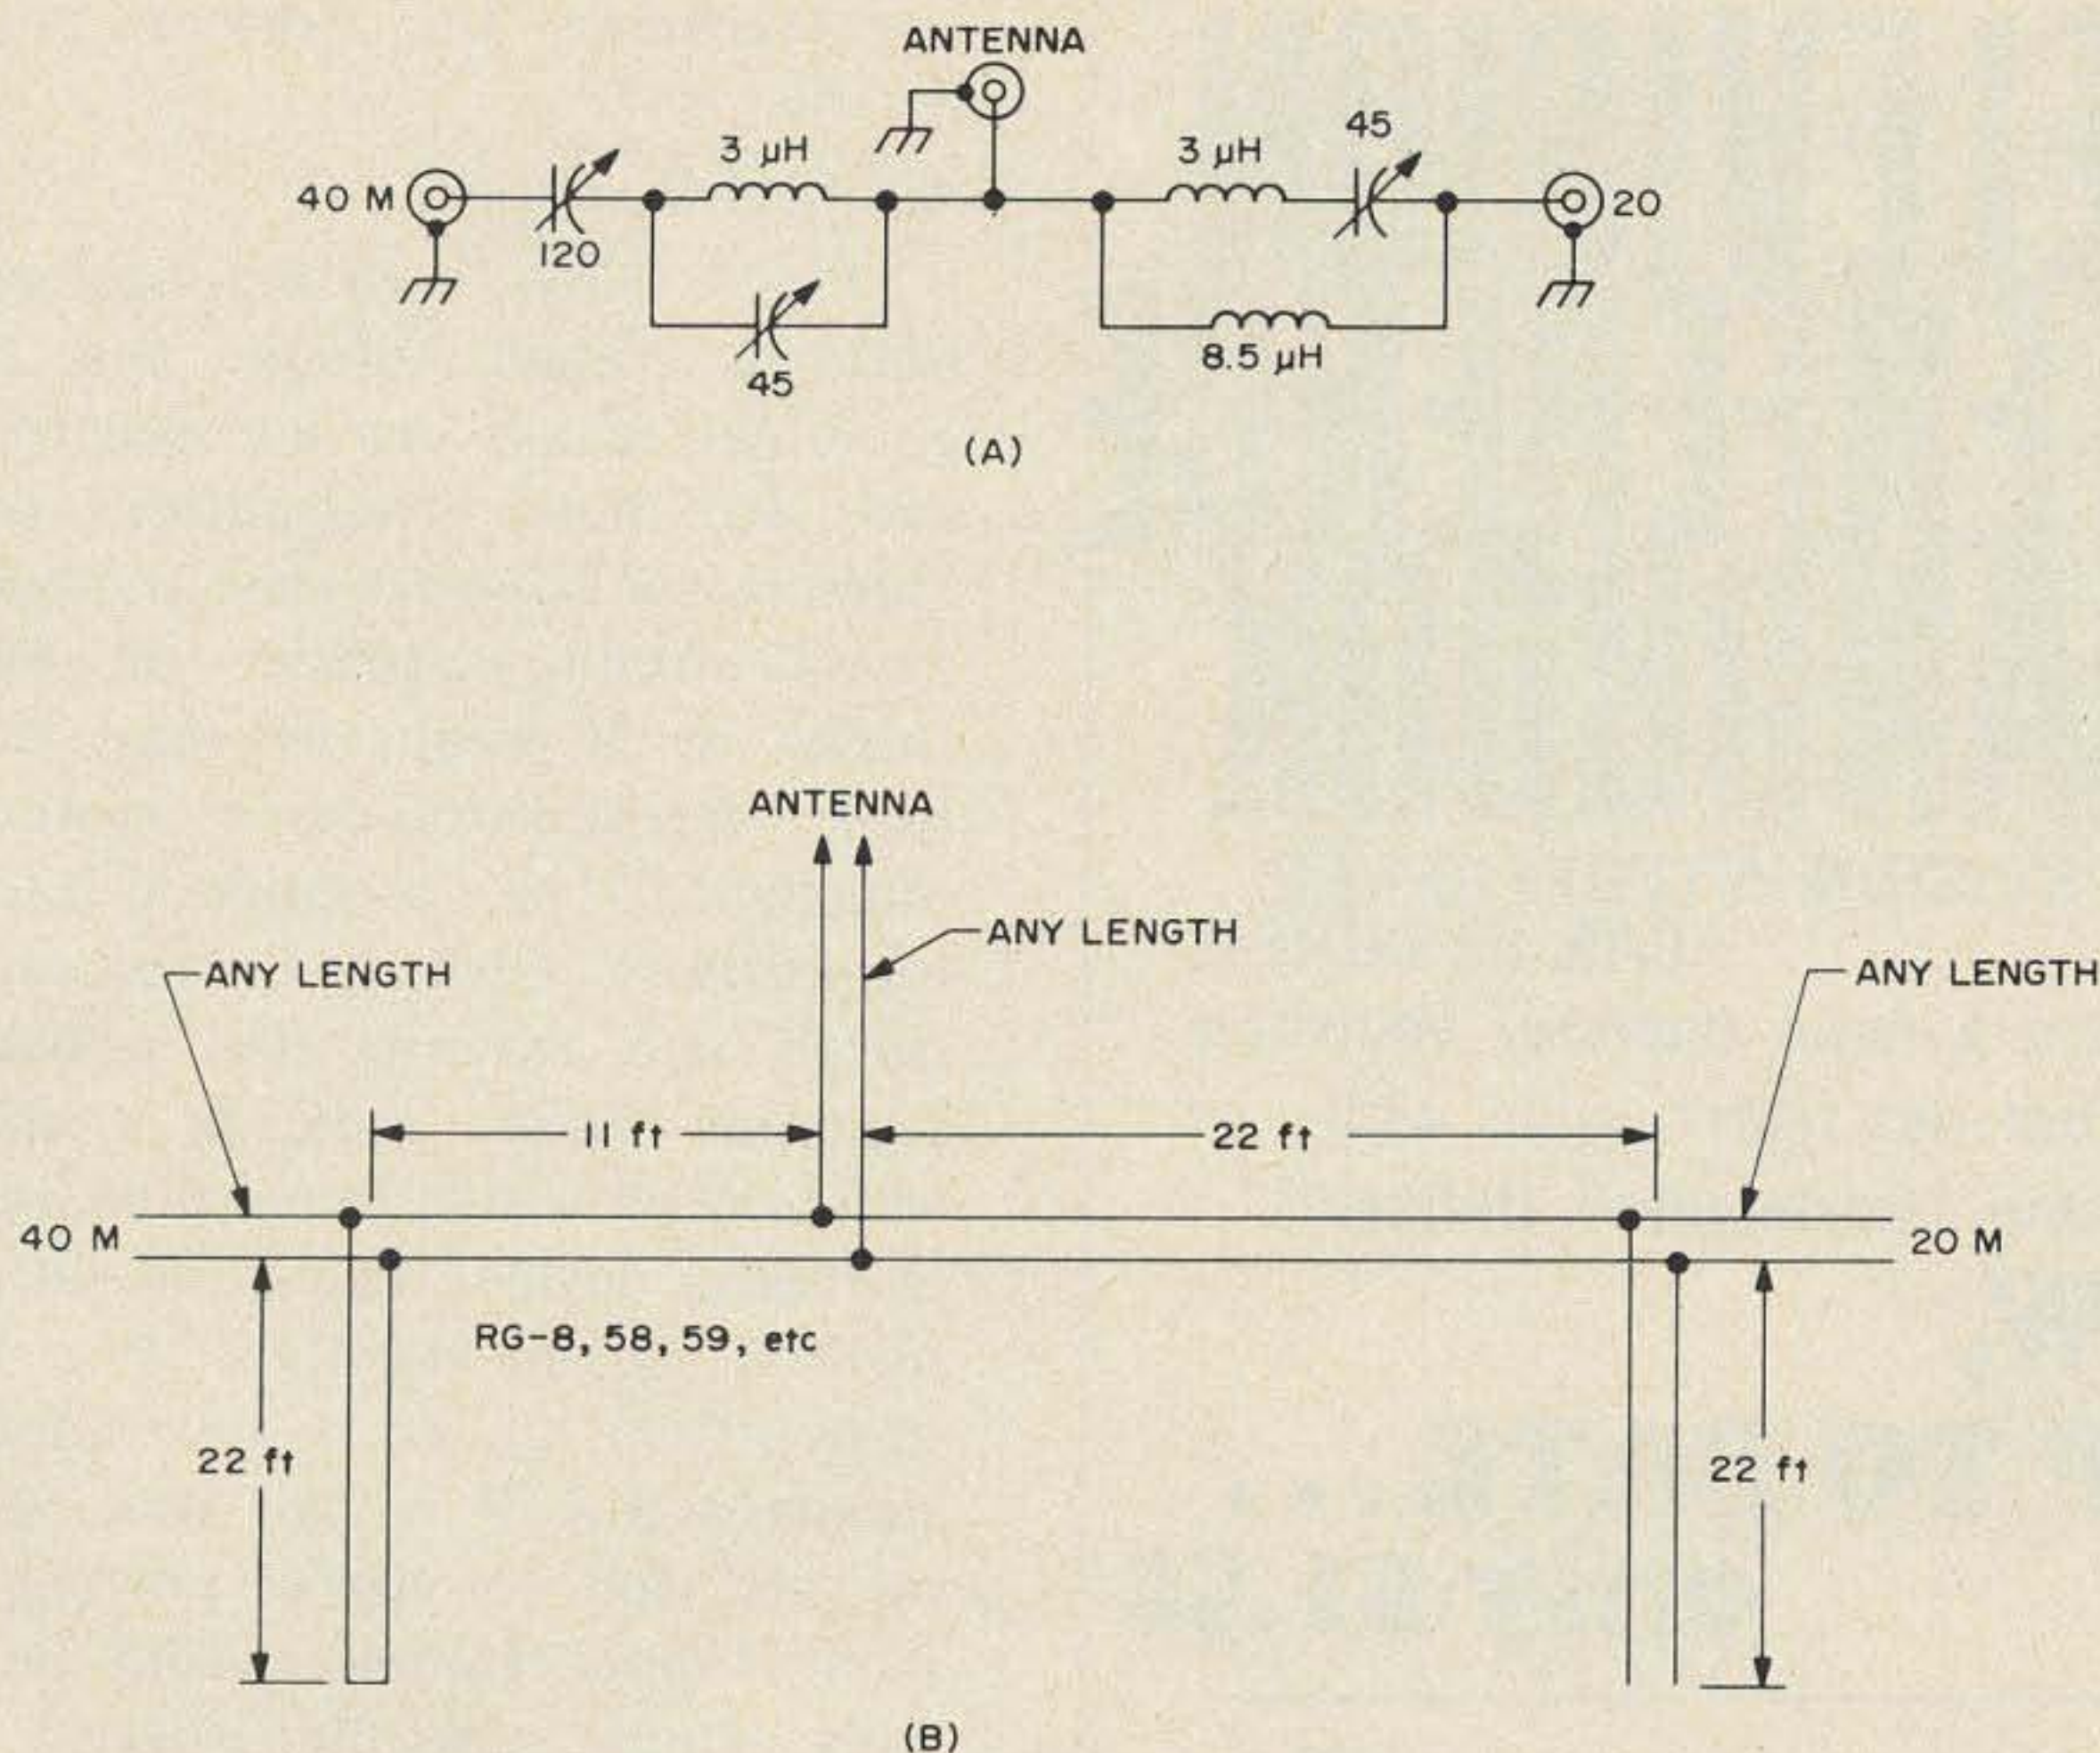

Fig. 3. Practical values for 40/20 meter combiner units. Similar combiners may be constructed for other combinations of amateur bands.
The simple transmission line combiner shown in Fig. 3(B) requires that frequency F be one half of that of F2. Normal transmission line (coaxial or balanced type) can be used for the entire construction. The operation can be visualized by first noting that both F1 and F2 transmitters are directly connected to the antenna. However, they are not interconnected to each other. On the F2 "side" of the combiner, the open end stub is $\frac{1}{4}\lambda$ long at F1. Thus at F1, it reflects a short where it is connected to the transmission line. The length of line between this point and the antenna is also chosen to be $\frac{1}{4}\lambda$ long at F1. Thus, the short is further reflected at F1 to
Fig. 3 shows two practical examples of both a tuned circuit and stub type combiner which can be used to couple 20 and 40 meter transmitters to a single antenna for simultaneous transmission. The tuned circuit combiner of Fig. 3 (A) is shown as it might be used in a coaxial cable transmission line system of any impedance. The transmission line from each transmitter must, of course, correctly match the antenna line impedance. The combiner serves only as a coupling and isolation network, but not as an impedance matching device. The coils should have as high a Q as possible. For low power transmitters up to a few hundred watts, standard B & W or Air Dux coil stock can be used; but for higher powers, coils made from copper tubing should be used. The coils should also be isolated from each other by mounting them at right angles to each other or using shields between them. With each connector dummy loaded by a small resistor corresponding to the impedance of the transmission line used, a grid-dip meter coupled to the 3 μ H coil on the 20 meter "side" of the combiner, the 45 pF capacitor on that "side" is adjusted for circuit resonance on 20 meters. With the grid-dip meter loosely coupled to the 8.5 μ H coil, that coil is trimmed for resonance on 40 meters. On the 40 meter "side" of the combiner, the grid-dip meter is loosely coupled to the 3 μ H coil. The 120 pF capacitor is adjusted for resonance at the 40 meter operating frequency. The 45 pF capacitor is adjusted for resonance on 20 meters.
The stub type combiner of Fig. 3 (B) usually needs no adjustment if the stub lengths are carefully cut to length. The physical lengths shown, for instance, are based upon a velocity factor for the transmission line of .66, and would be correct for such cables as RG-8, RG-58, RG-59, etc. Standard coaxial cable "hardware" such as shown in the photograph can be used to make all the necessary cable interconnections or the cables can be carefully spliced together.